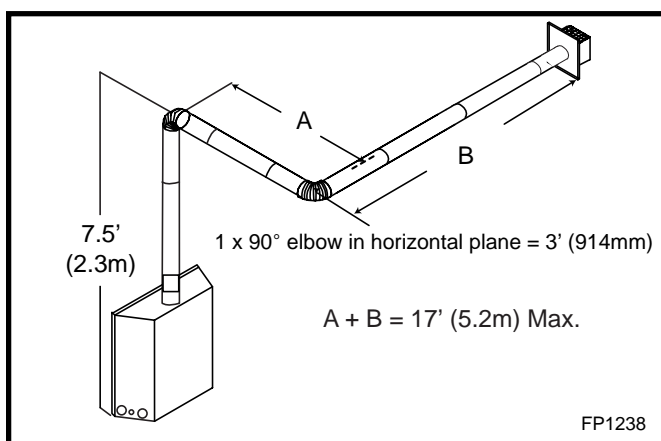

Fig. 15 Maximum vent run with elbows.
- The maximum number of 90° elbows per side wall installations is three (3).
**Example:** According to the chart the maximum horizontal vent length in a system with a 7.5' (2.3m) vertical rise is 20' (6m) and if a 90° is required in the horizontal vent it must be reduced to 17' (5.2m). In Figure 15, Dimension A plus B must not be greater than 17' (5.2m).